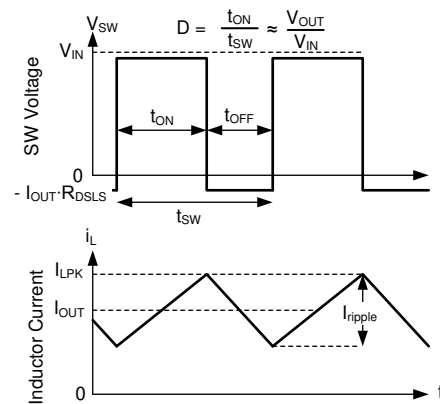

Figure 8-15. SW Voltage and Inductor Current Waveforms in Continuous Conduction Mode (CCM)
The following operating description of the device refers to Section 8.2 and to the waveforms in Figure 8-15. In CCM, the device supplies a regulated output voltage by turning on the internal high-side (HS) and low-side (LS) NMOS switches with varying duty cycle (D). During the HS switch on time, the SW pin voltage, V_{SW} , swings up to approximately V_{IN} , and the inductor current, i_L , increases with a linear slope. The HS switch is turned off by the control logic. During the HS switch off time, t_{OFF} , the LS switch is turned on. Inductor current discharges through the LS switch, which forces the V_{SW} to swing below ground by the voltage drop across the LS switch. The converter loop adjusts the duty cycle to maintain a constant output voltage. D is defined by the on time of the HS switch over the switching period: